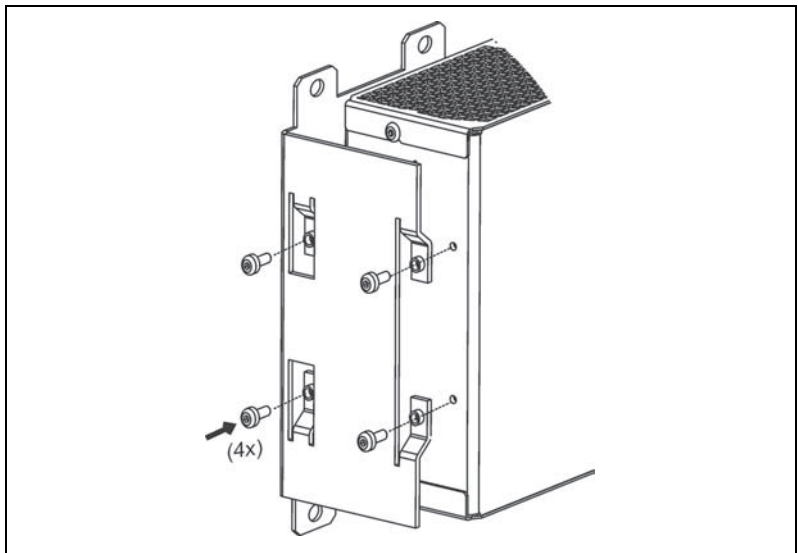

Figure 6. Mounting the Steel Brackets
3. Mount the steel brackets with the same screws from the DIN-Rail brackets as shown in Figure 6.